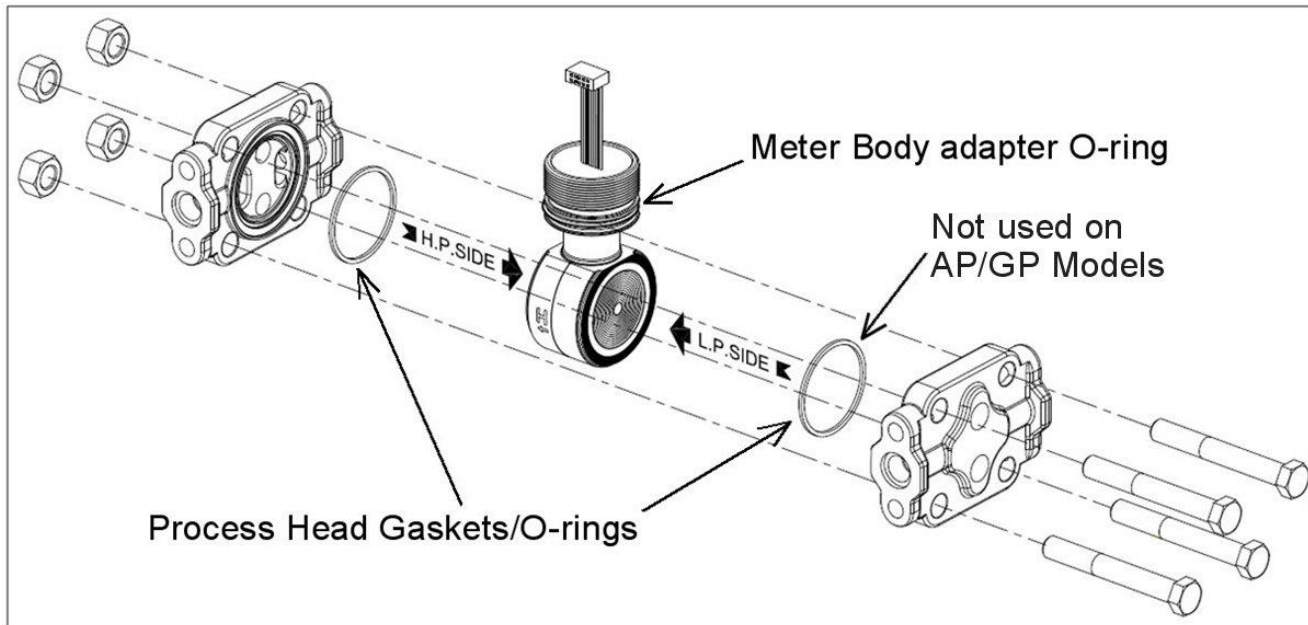

Figure 27 – ST 700 Standard Transmitter - Meter Body Reassembly
15. Refer to Figure 27. Apply Dow Corning #33 silicone grease to the meter body adapter O-ring and carefully assemble the O-ring to the meter body. Assemble the process head(s) and bolts to the new meter body. For now, make the bolts only finger-tight.